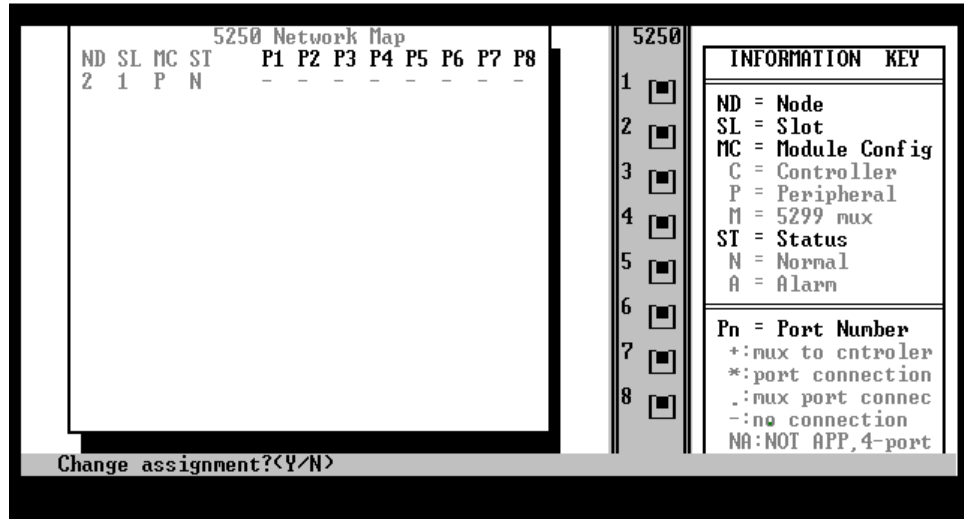

Figure 3-14. Establishing Port Connections
3. Choose N:etwork Map. A screen similar to Figure 3-14 is displayed.